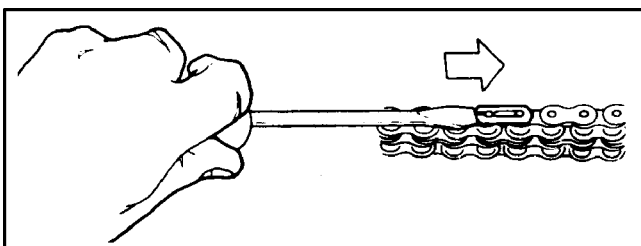
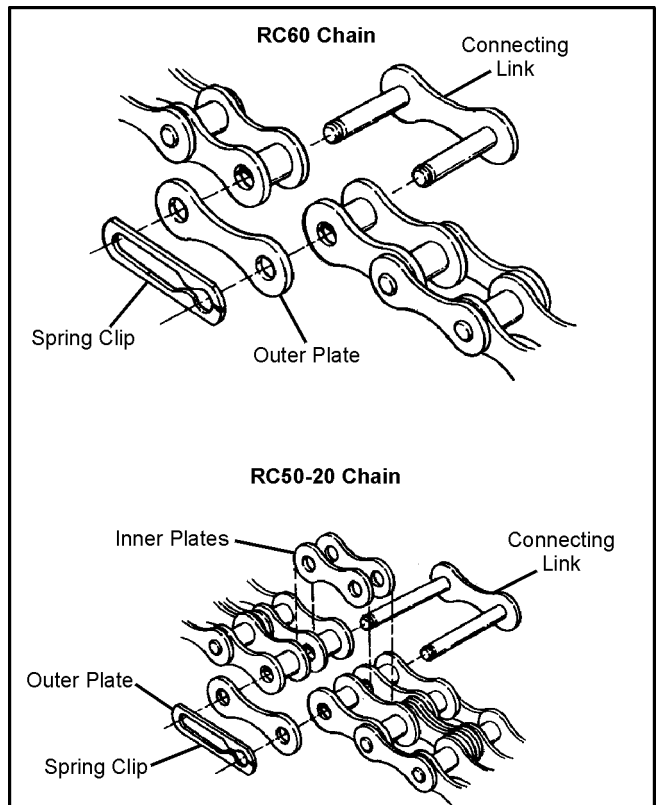

Figure 7-5. Removal of the spring clip.
Figure 7-6. Chain connection link components.
5. Remove the spring clip from the connecting link as shown in Figure 7-5. Remove the outside plate and tap out the connecting link. The inside plates will be released when the connecting link is removed (Figure 7-6).
2. Pull the ends of the chain together and insert the connecting link as shown in Figure 7-6 and 7-7. When connecting the RC50-2 chain, insert the inside plates before tapping the connecting link into position.
2. Remove the spring clip or cotter pins, depending on model, from the connecting link. Remove the outside plate and tap out the connecting link. On models that utilize a double 40 or 50 drive chain, as the connecting link is removed, the inside plates will be released (refer to Figure 7-6). Models with single 60 drive idler chains have no inside plates.
3. Replace the outside plate and spring clip as shown in Figure 7-5. Note: Avenger and Frontier models are secured with two (2) cotter pins. Always use new cotter pins.